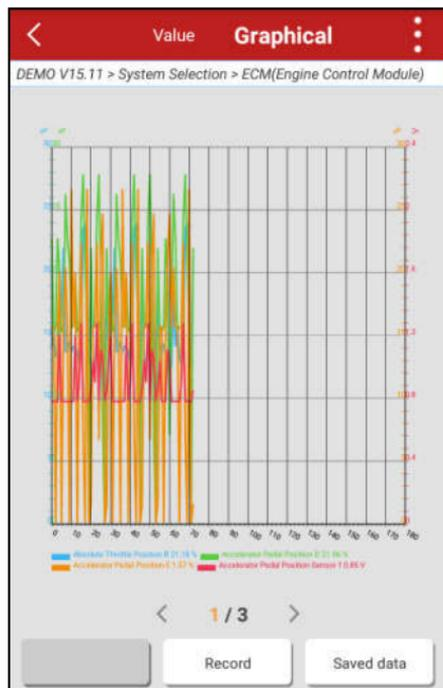

Fig. 5-13
- ✓ **Combine** – this option is mostly used in graph merge status for data comparison. In this case, different items are marked in different colors. See Fig. 5-13.